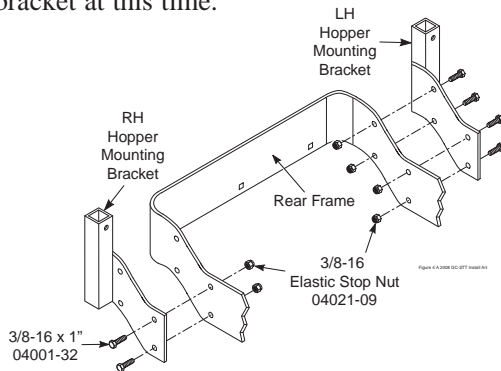

FIGURE 3-4
- Install the LH & RH hopper mounting brackets to the outside of the frame on the rear of the machine and secure using six (6) 3/8-16 x 1" hex head bolts, and six (6) 3/8-16 elastic stop nuts. See Figure 3-4. Do Not install mounting hardware in the rear holes provided in the RH hopper mounting bracket at this time.